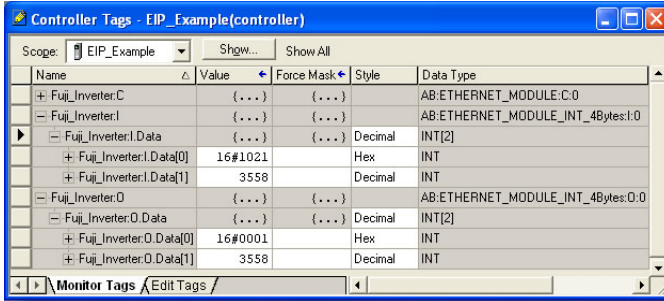

Figure 85: Controller Tags for I/O Access
- 8) By double-clicking “Controller Tags” in the project tree, it is possible to view the newly-added tags. Refer to Figure 85. The Fuji_Inverter:C configuration tag is unused, the Fuji_Inverter:I tag allows viewing of the input data, and the Fuji_Inverter:O tag allows modification of the output data. These tags will be synchronized with the inverter at whatever rate was established for the module’s RPI.
control and monitor the inverter. In Figure 85, for example, we can see that the first 16-bit word of output data (Fuji_Inverter.O.Data[0]) has been set to a hexadecimal value of 0x0001. Referring back to Figure 45, we can see that the first element of the consumed data configuration references function code S06, which is the inverter's operation command register. A value of 0x0001, therefore, means that the FWD (run forward) bit has been turned ON.